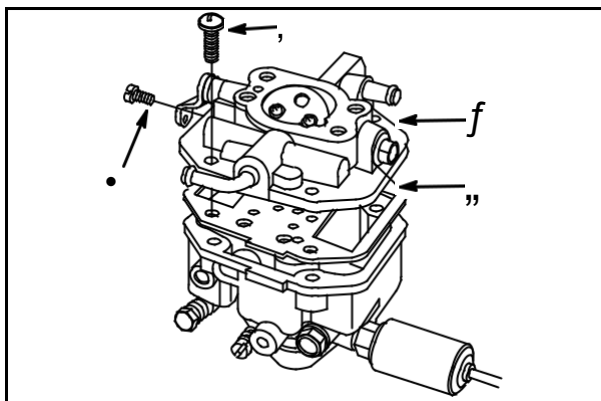

Fig. 98
Remove pilot jet (1), **Fig. 98**.